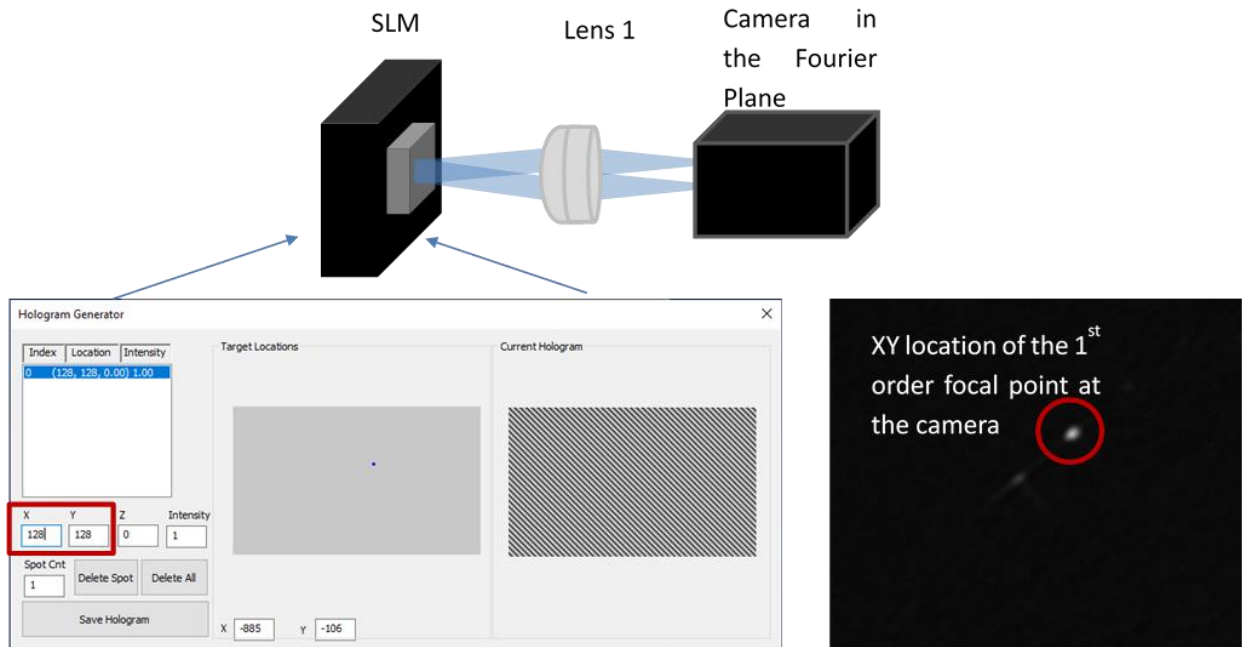

Figure 19 Typical diffractive calibration data
An affine transformation can be applied to the hologram computation algorithm to apply a mapping between focal point locations in the image plane, and focal point locations generated by the SLM. To calculate the transformation the user should create a series of three focal points in XY locations in SLM coordinates and record the resulting location of the 1st order focal point at a detector in the Fourier Plane. For example, Figure 19 shows one of the three measurements that must be passed as parameters to CalculateAffinePolynomials: a focal point with a SLM XY location of 128, 128, and a corresponding first order focal point on a camera. The locations will be passed as SLM_X_0 (128), SLM_Y_0 (128), CAM_X_0 (the x location of the 1st order), and CAM_Y_0 (the y location of the 1st order). To get a good calibration it is recommended that focal point locations are recorded when steering a focal point to three different